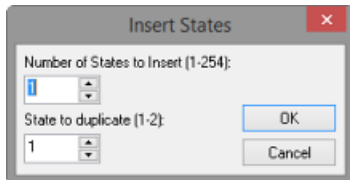

FIG. 365 Insert States dialog
3. Select **Button > Insert States** to open the *Insert States* dialog (FIG. 365):